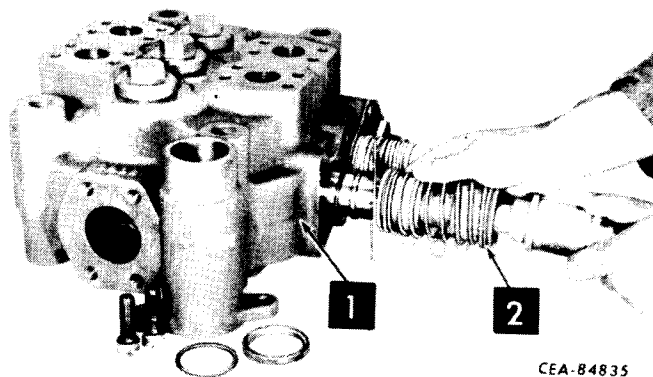

Figure 11-44
Pull the boom plunger assembly (2, Fig. 11-44) from the valve body (1).